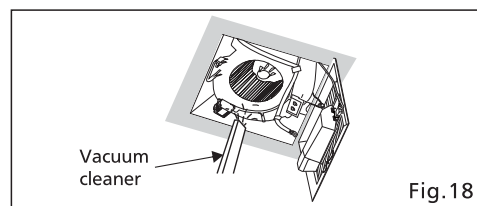

Fig.18
3. Remove dust and dirt from fan body using a vacuum cleaner. (Fig.18)